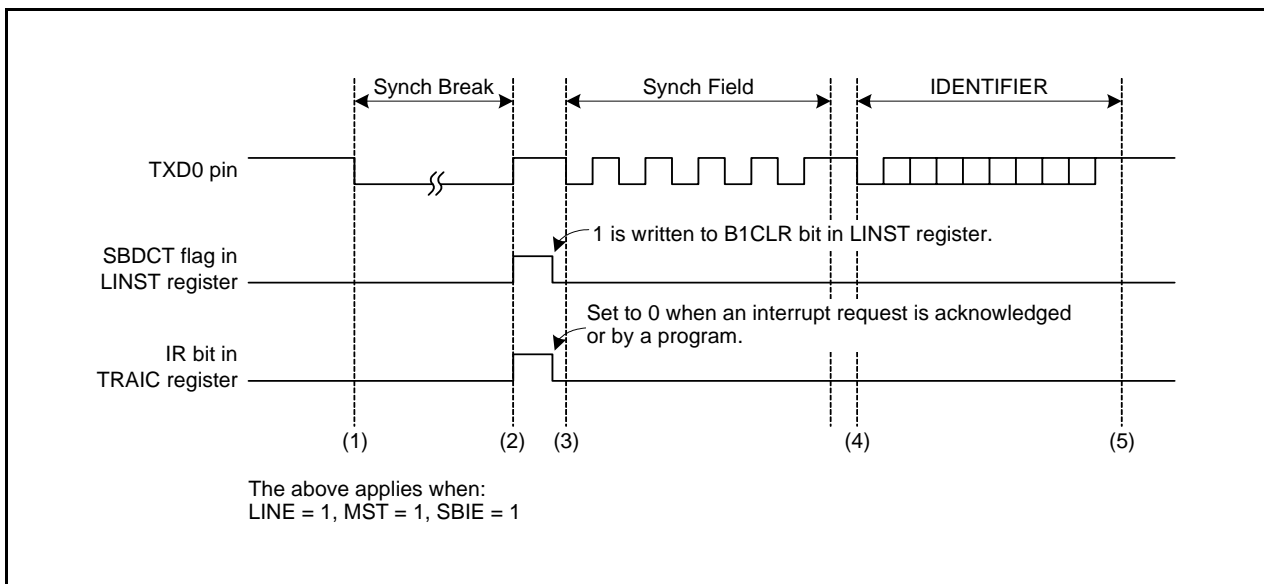
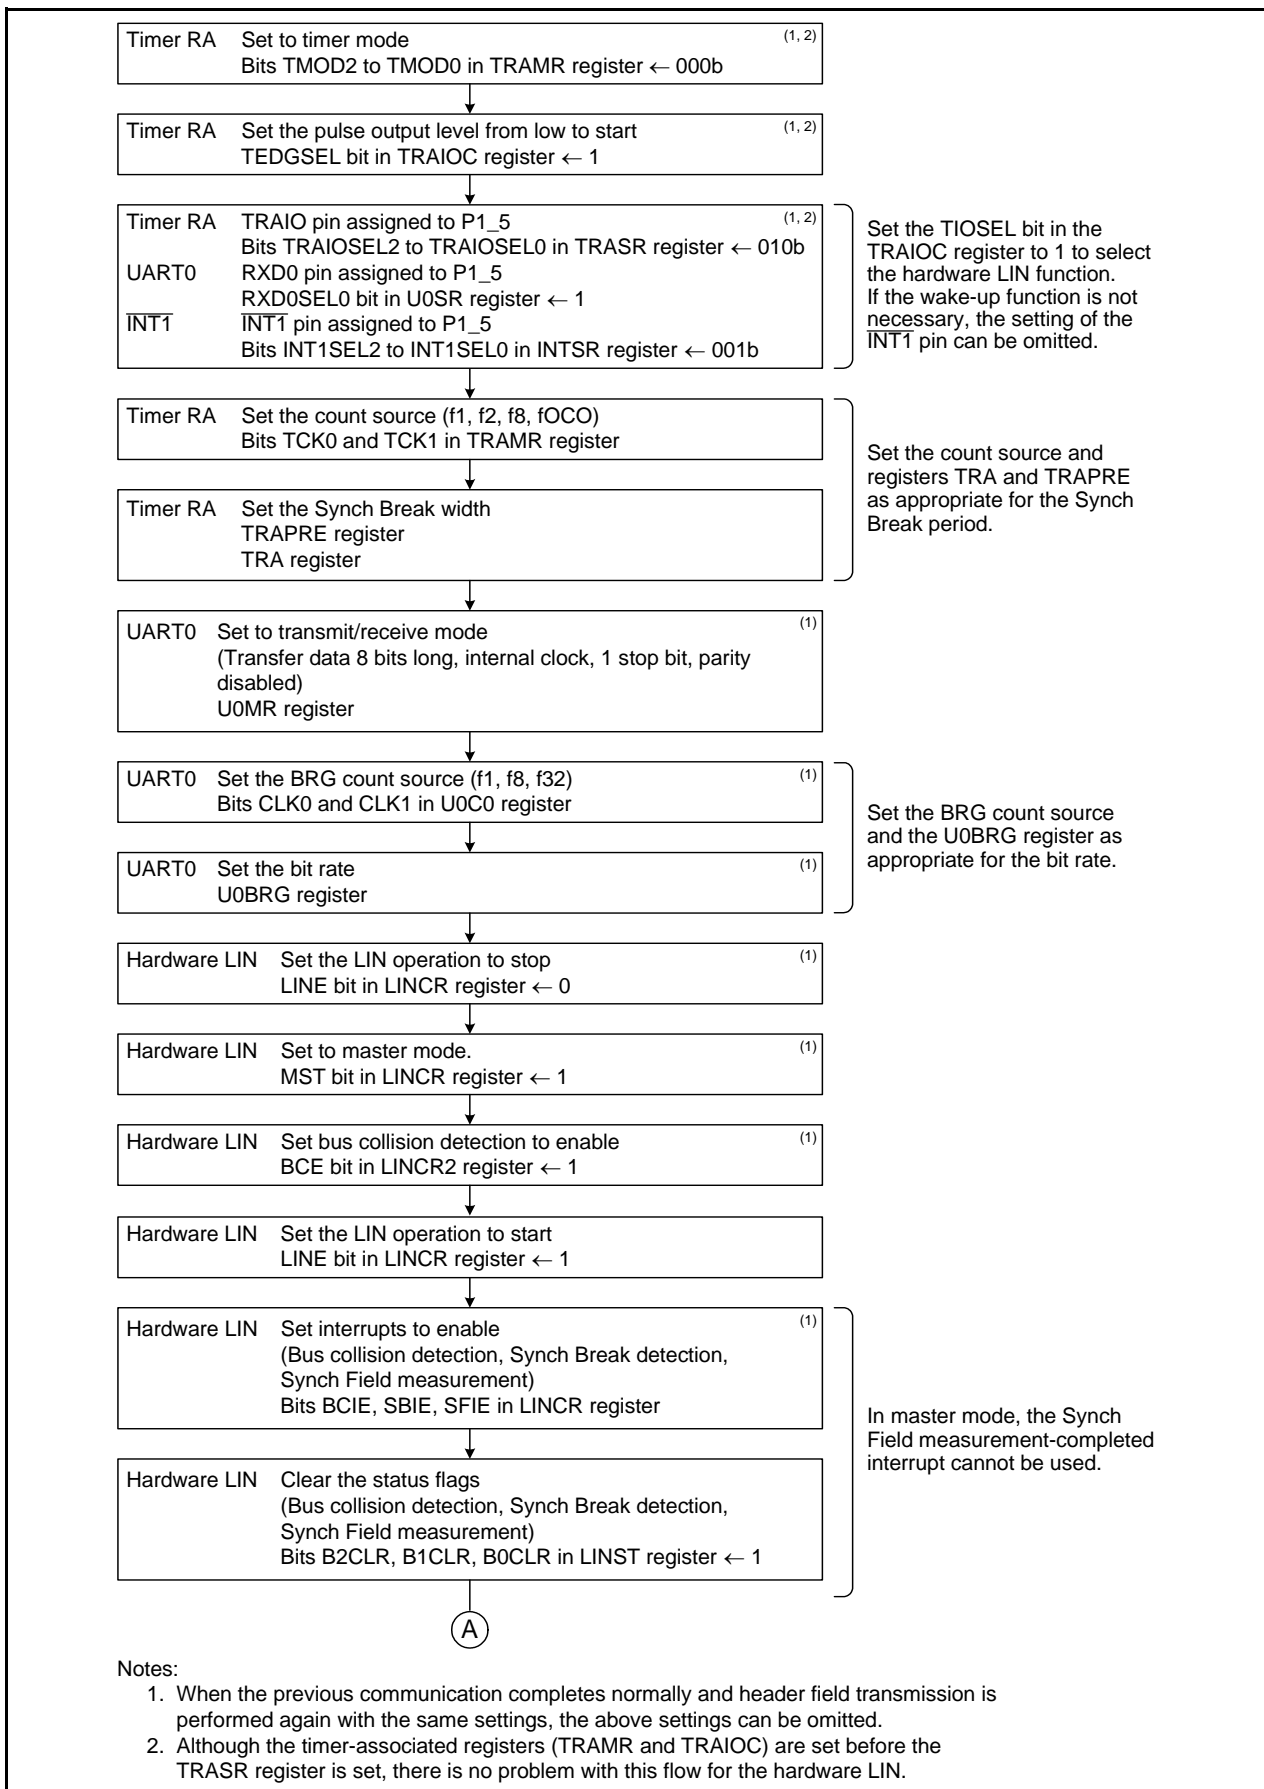
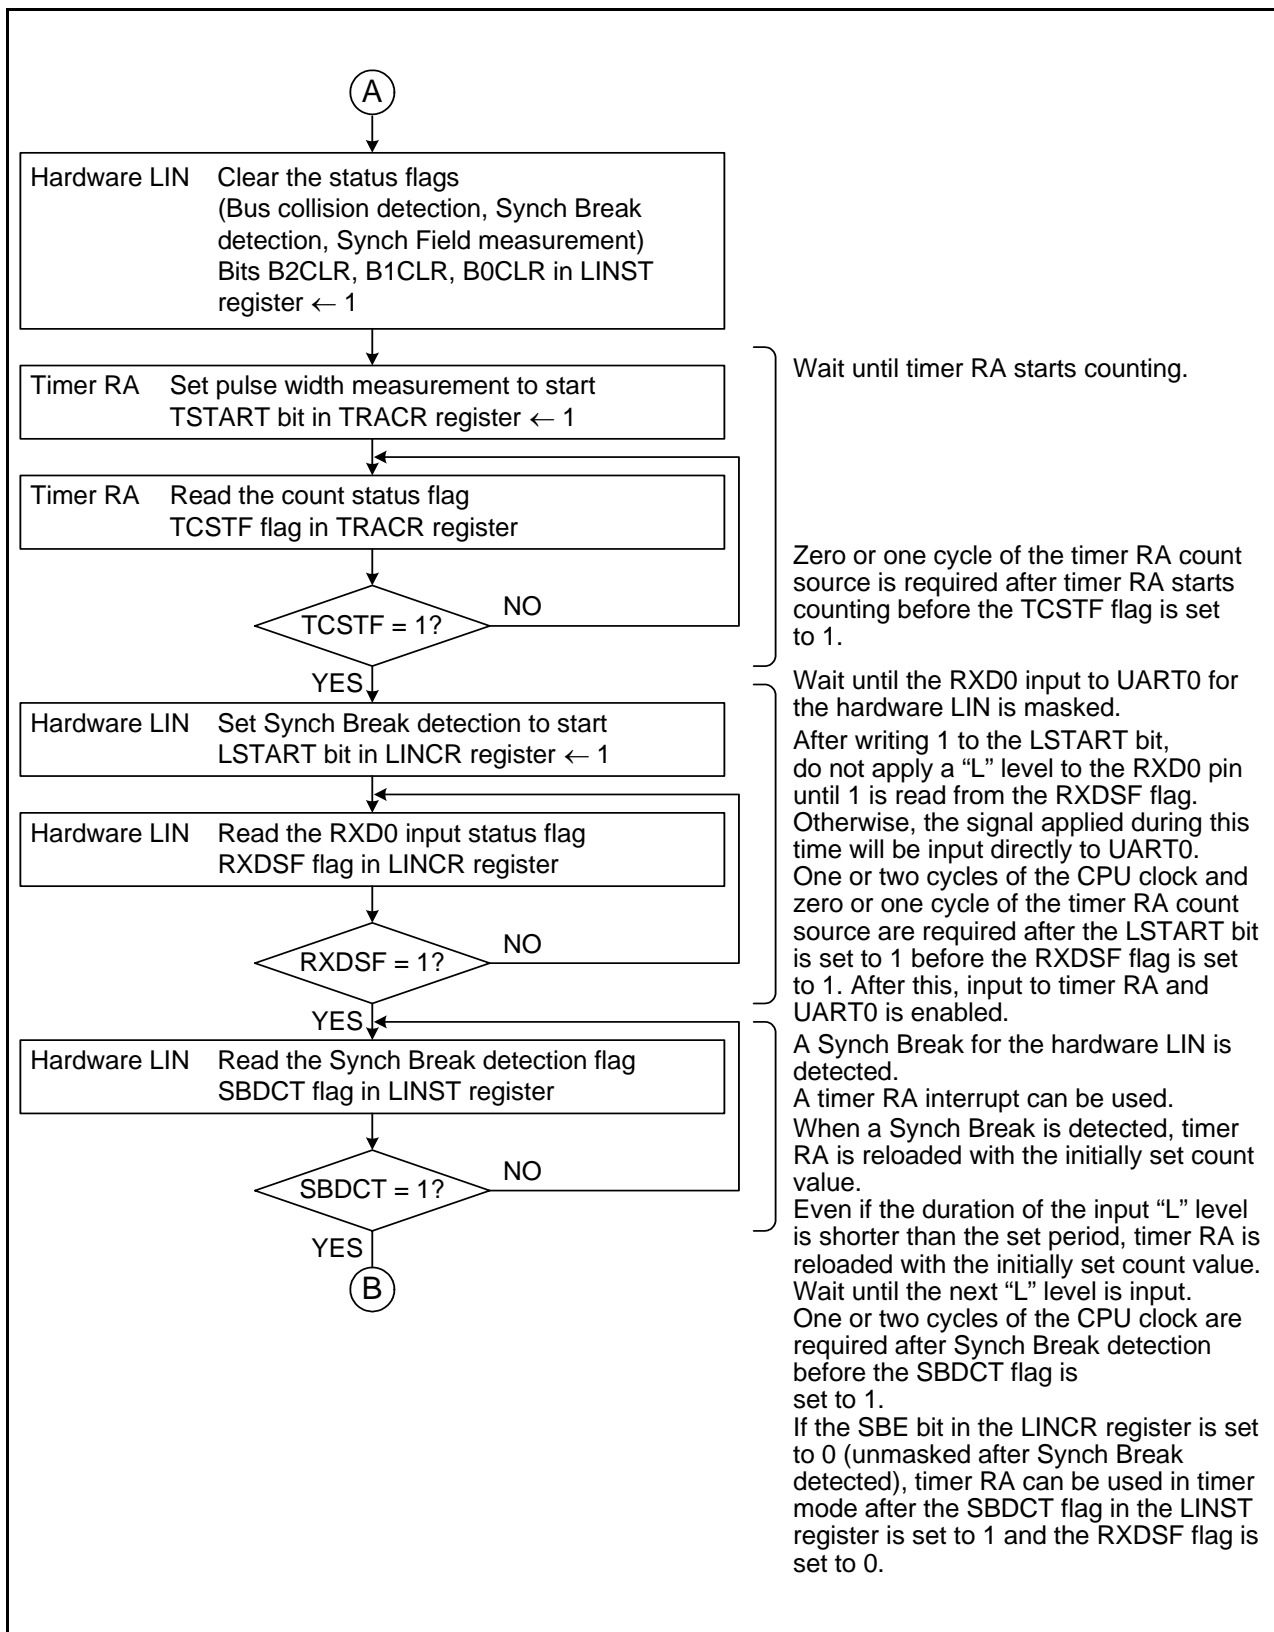

Figure 22.2 Operating Example during Header Field Transmission
Figure 22.3 Header Field Transmission Flowchart Example (1)
Figure 22.7 Header Field Reception Flowchart Example (2)
3. Inputs to timer RA and UART0 are disabled immediately after the LINE bit is set to 1 (LIN operation starts). (Refer to **Figure 22.3 Header Field Transmission Flowchart Example (1)** and **Figure 22.7 Header Field Reception Flowchart Example (2)**.)
Figure 22.2 shows an Operating Example during Header Field Transmission in master mode. Figures 22.3 and 22.4 show Examples of Header Field Transmission Flowchart.